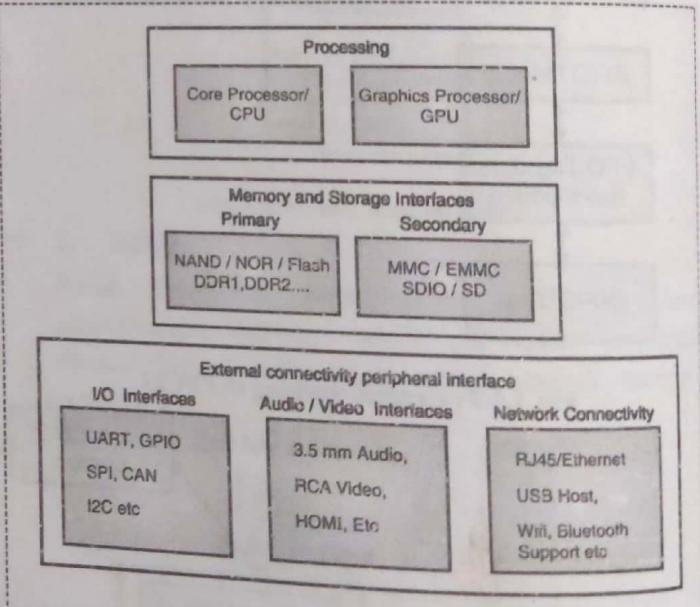

Fig. 1.7.1 : A general IoT device and its contains
- As shown in Fig. 1.7.1 an IoT device generally has a processing power, sensing ability, some storage capability and some methods to connect external peripherals.